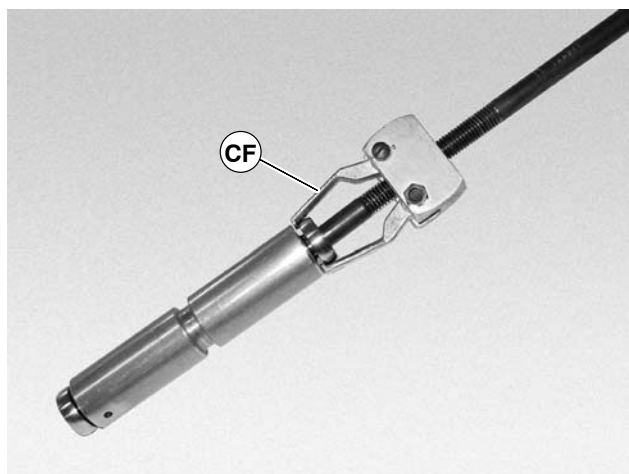

Figure 48 – Conveyor Pulley
1. Use a bearing removal tool, (CF of Figure 48, 49), part number 807-1078, or equivalent and remove both bearings from the conveyor pulley and the drive pulley.